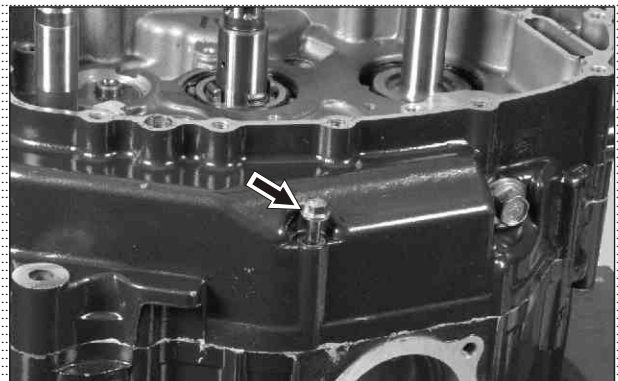

Fig. 3.186
- Assemble and tighten hexagonal flange bolt (M6x55 - 1 no) on the crankcase complete R. (Fig. 3.186)